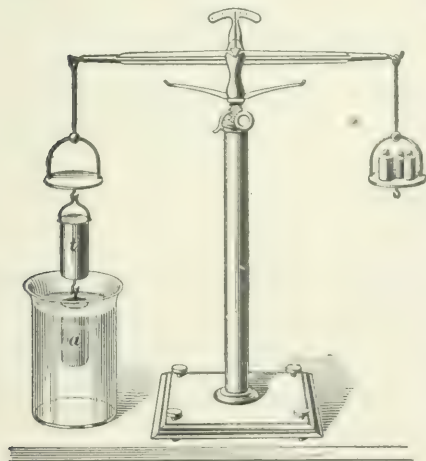

FIG. 12.
27. This principle may be experimentally demonstrated with the beam scales, as shown in Fig. 12. From one scale pan suspend a hollow cylinder of metal *t*, and below that a solid cylinder *a* of the same size as the hollow part of the upper cylinder. Put weights in the other scale pan until they exactly balance the two